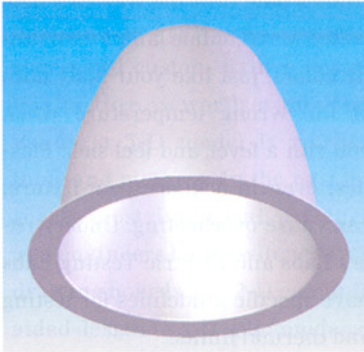

Figure 3.
**Sheet metal—spun:** This is used for round symmetrical forms (Figure 3); undercuts can also be implemented. Like bent sheet metal, all attachments from the inside are visible to the outside. A high-gloss mirror finish can be laborious. Common uses are in highbay reflectors, urns, woks and metal globes. Tooling costs and lead time are reasonable for custom runs.